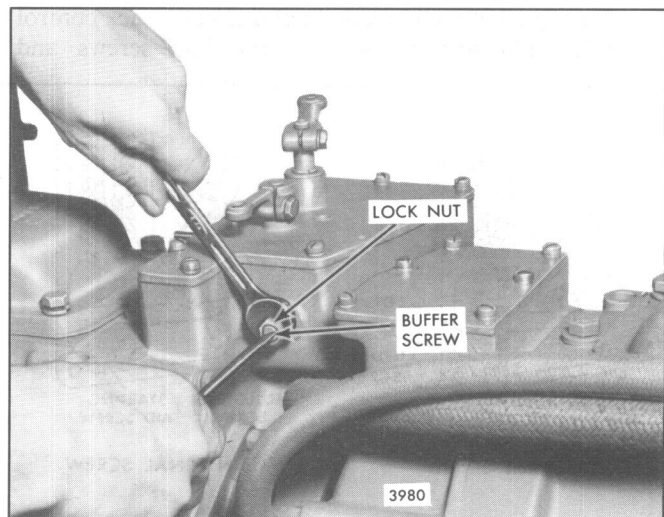

Fig. 10 – Adjusting Buffer Screw
- With the engine running at normal operating temperature, turn the buffer screw in so it contacts the differential lever as lightly as possible and still eliminates engine roll (Fig. 10).